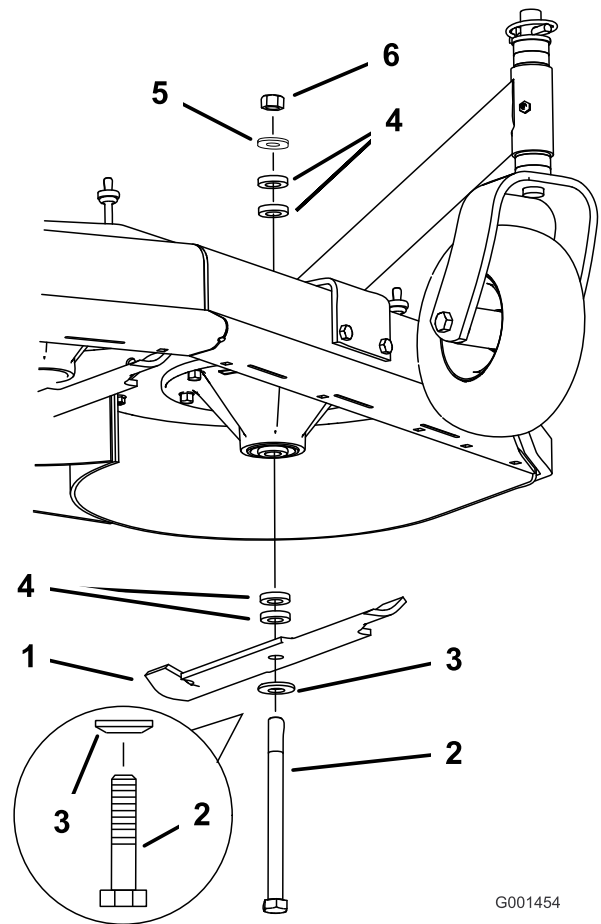

Figure 19
4. Hold the blade bolt and remove the nut. Slide the bolt down through the spindle, and change the spacers as needed (Figure 19).
5. Install the bolt, curved washer, blade, add extra spacers, and secure them with a thin washer and a nut (Figure 19).